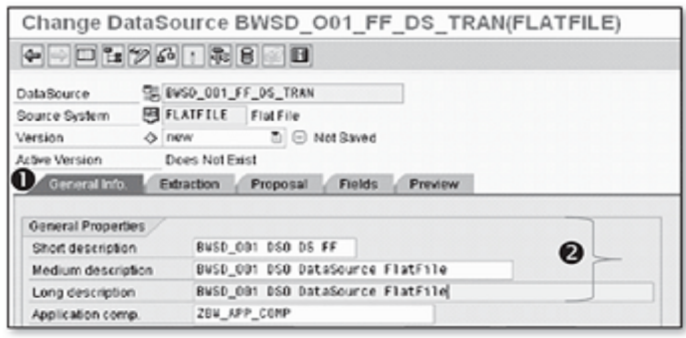

Figure 7.51 Transaction DataSource Creation: General Tab
In the General Info tab (❶ of Figure 7.51) of the Change DataSource screen, enter the short/medium/long description (❷).